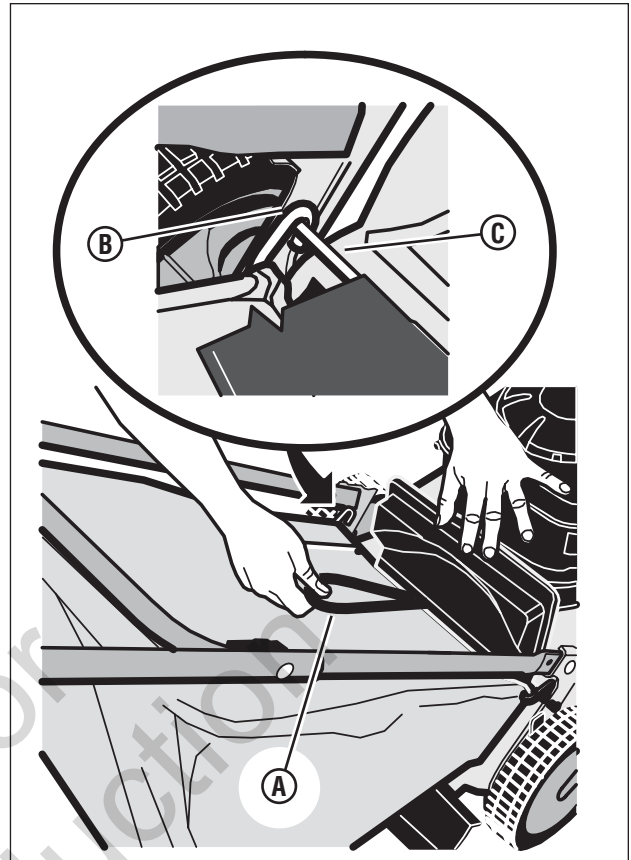

Figure 10: Installing the grass bag
3. Holding the grass bag handle (**A**, **Figure 10**), install the grass bag onto the mower, making sure that the grass bag hooks (**B**) are hooked onto the rear door pivot rod (**C**).